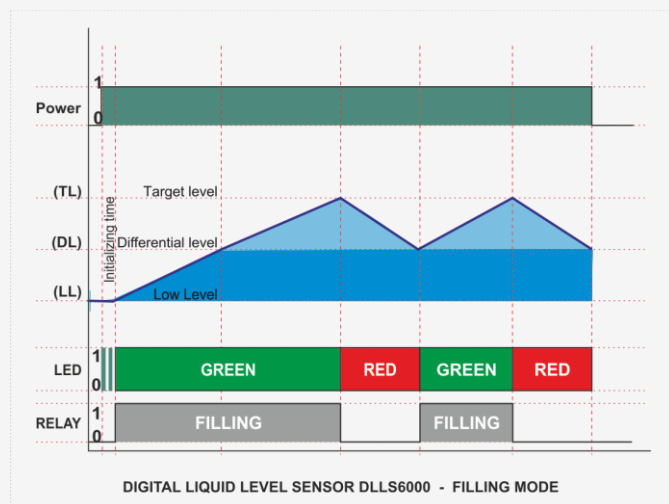

fig. 7
In filling mode, the relay at the beginning is activated and fills the tank (provided that the level is detected under the TL) and deactivates when the level reaches the (TL). At the following operating circles, the relay activates each time the level reaches the (DL) and deactivates when the level reaches the (TL). (*fig. 7*)